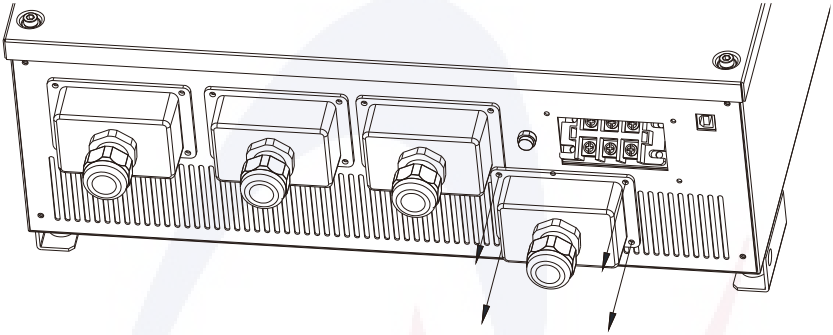
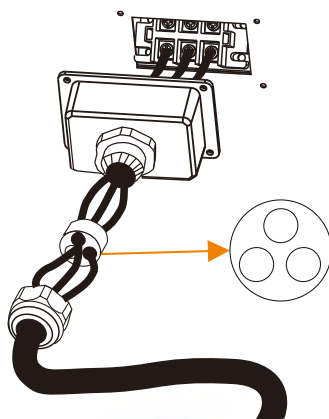

Figure 2
Figure 3
- Step 3: As shown in Figure 2, remove the cover of AC output. Follow the steps in Figure 3 to set the AC output wiring by using the recommended wire diameter. You can follow the instructions in Figure 4 to adopt different wiring methods for the desired output voltage.